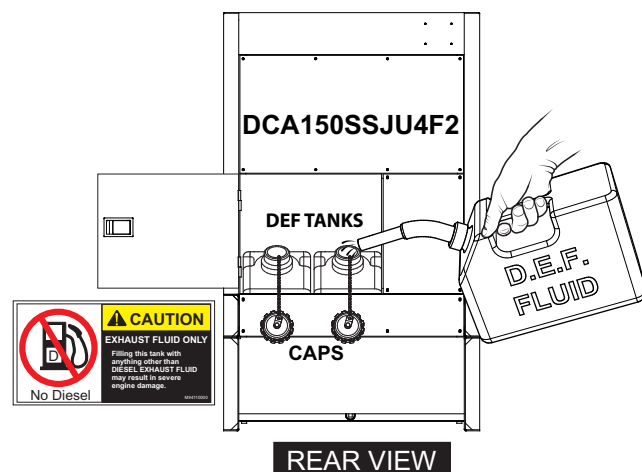

Figure 42. DEF Tank Filling (DCA150SSJU4F2)
2. For DCA150SSJU4F2 generators, open the enclosure **rear door**, remove the filler cap from both DEF tanks and fill with DEF fluid (Figure 42).